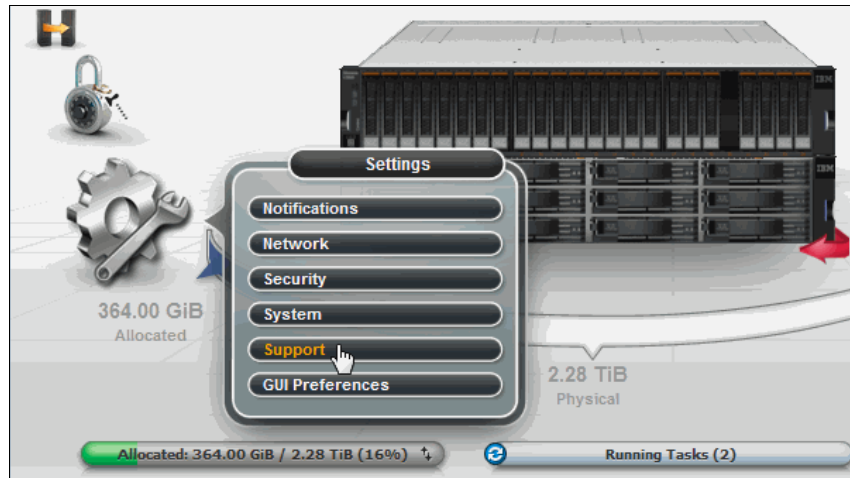

Figure 11-20 Configuration backup open support pane
1. Browse to **Settings** → **Support**, as shown in Figure 11-20.